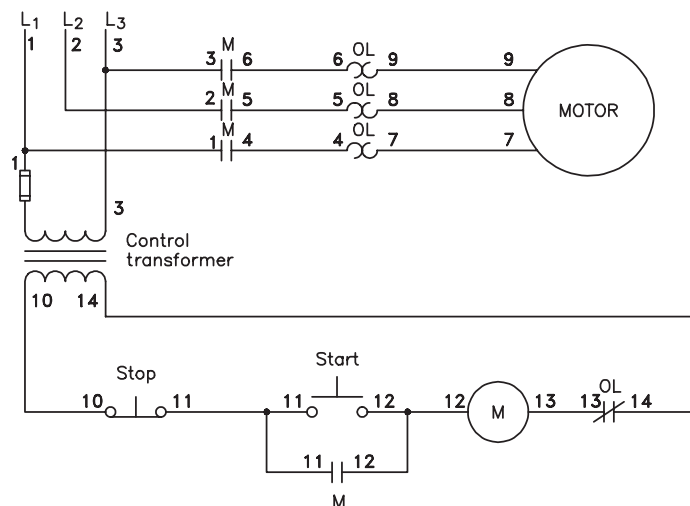
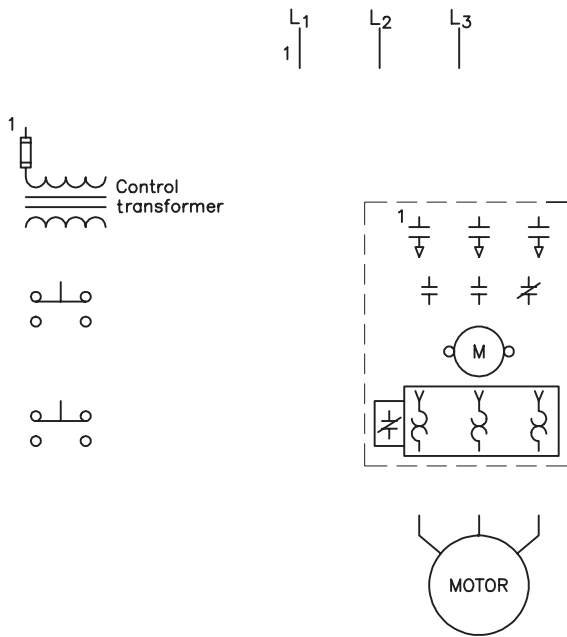
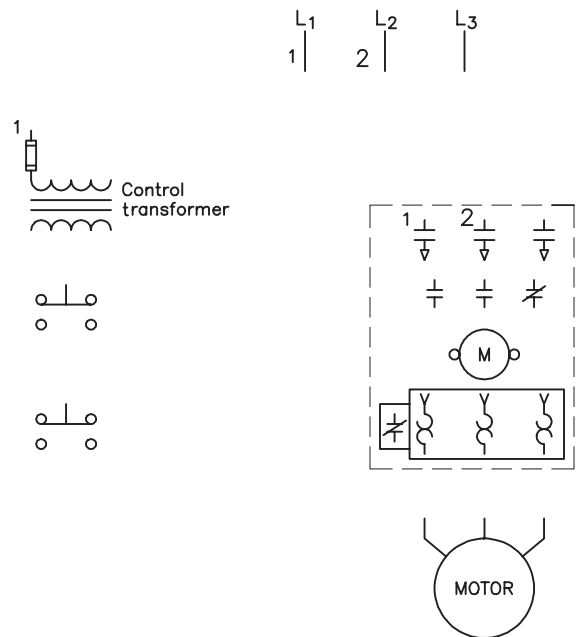

Figure 26-7 Numbers are placed beside all components.
Figure 26-8 A 1 is placed beside L₁, the control transformer fuse, and M load contact.
Figure 26-9 The number 2 is placed beside L₂ and the second load contact on M starter.
The number 10 will begin at one side of the control transformer secondary and go to one side of the normally closed stop push button. The number 11 is placed on the other side of the stop button and on one side of the normally open start push button and normally open M auxiliary contact. A number 12 is placed on the other side of the start button and M auxiliary contact and on one side of M coil. Number 13 is placed on the other side of the coil to one side of the normally closed overload contact. Number 14 is placed on the other side of the normally closed overload contact and on the other side of the control transformer secondary winding. See Figure 26-7.
Now that the components on the schematic have been numbered, the next step is to place the same numbers on the corresponding components of the wiring diagram. The schematic diagram in Figure 26-7 shows that the number 1 has been placed beside L₁, the fuse on the control transformer, and one side of a load contact on M starter (Figure 26-8). The number 2 is placed beside L₂ and the second load contact on M starter (Figure 26-9). The number 3 is placed beside L₃, the third load contact on M starter, and the other side of the primary
To connect the control circuit, follow the same procedure that was used to develop the wiring diagram. Use the schematic diagram shown in Figure 26-7. It is sometimes helpful to use a highlighter to mark the diagram as connections are made.
1. Refer to the circuit shown in Figure 26-7. If wire number 11 were disconnected at the normally open auxiliary M contact, how would the circuit operate?
4. Refer to the schematic in Figure 26-7. Assume that when the start button is pressed, the control transformer fuse blows. What is the most likely cause of this trouble?